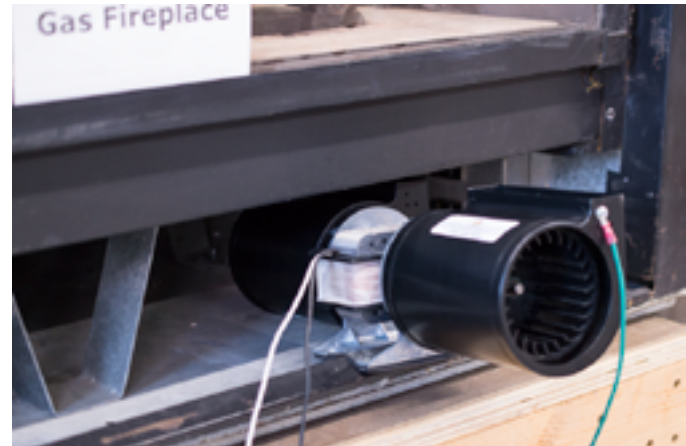

Figure: 5
Place Blower up to Lower Vent Space opening to confirm Blower will fit (Figure 5).
- Remove clear backing of velcro on back of Blower. Position blower with rectangle air exit ports facing up and motor facing left (Figure: 5).
- Slide blower into lower vent space, centering against the rear wall. (Figures: 5, 6 & 7)